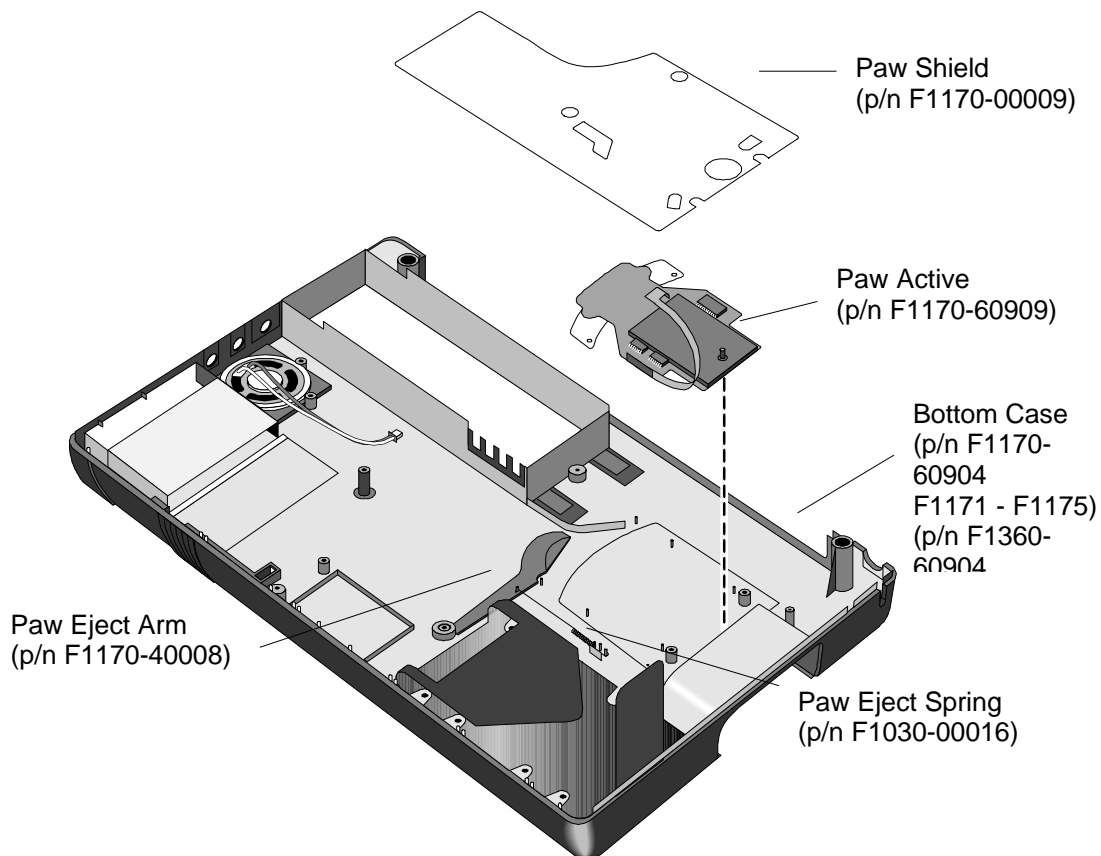

Figure 42 - Paw Active Removal
2. Remove the Paw Shield. Refer to Figure 42 for location of components.